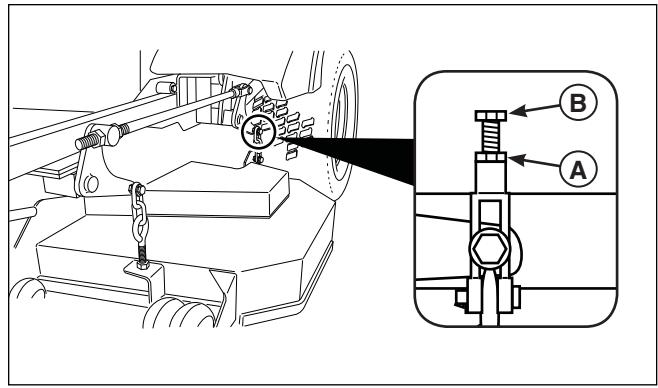

Figure 50. Fine Adjustment of the Deck Cutting Height
1. Loosen the jam nut (A, Figure 50) and turn the fine adjustment bolt (B) to adjust the deck height until the back measurement equals 4" (10,2 cm).